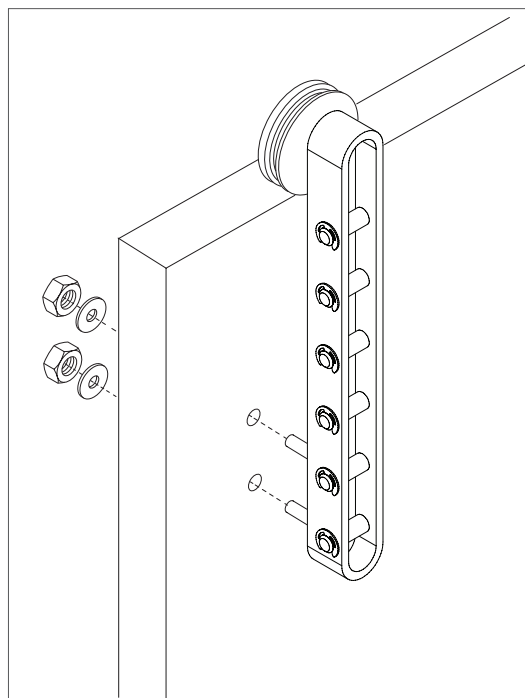

Figure 5
9. Install the hangers to the front of the door using hex nuts and washers (provided) (Figure 5).